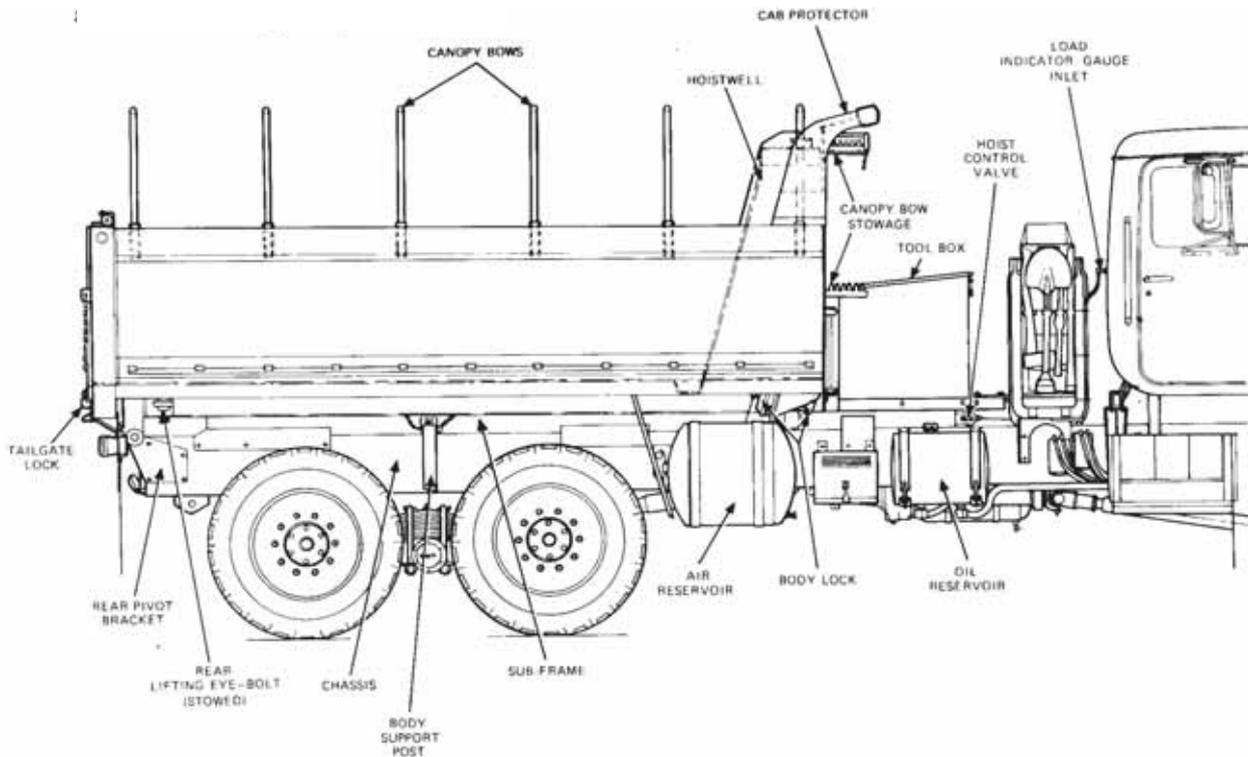

Figure 6 Dump Body and Chassis – Equipment Location
5. The truck is fitted with an aluminium alloy box-section end-dumping body. Two box-section beams (main bearers) are welded to, and run the full length of the body and are also the mounting points for the two rear upper pivot brackets. Wear plates are fitted to the front of the main bearers to prevent the sub-frame from wearing them. Figure 6 illustrates the location of various equipment around the dump body and chassis.